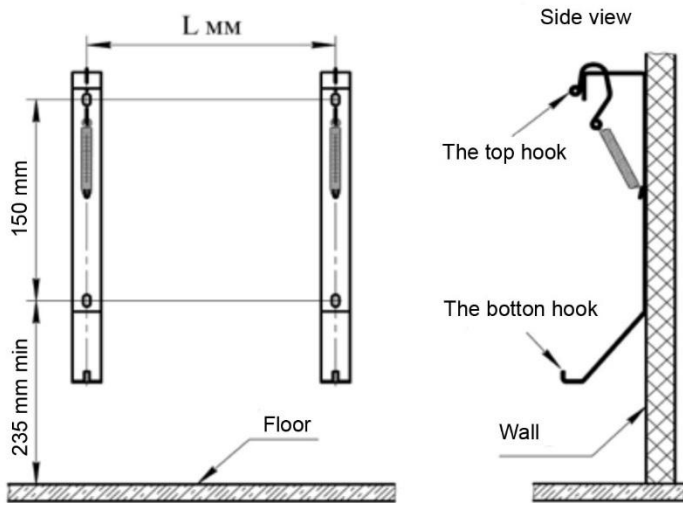

Figure 1
- execute on a wall a marking for fixing (see fig. 1, table 1);